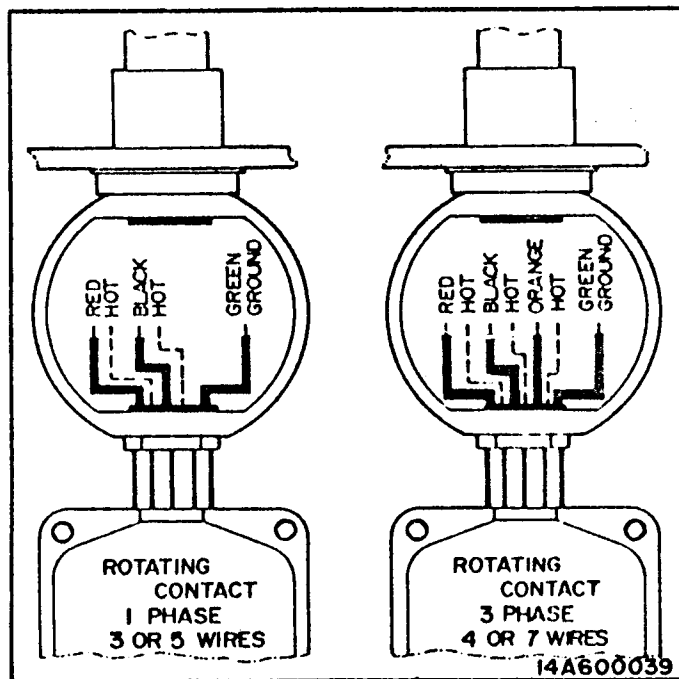

FIG. 24 - WIRING ROTATING CONTACT
1. Liquid tight elbow and drip loop provided by electrician. Have electrician bring electrical service into the cast junction box in center of bin. Wire into the leads of rotating contact. Fig. 24.